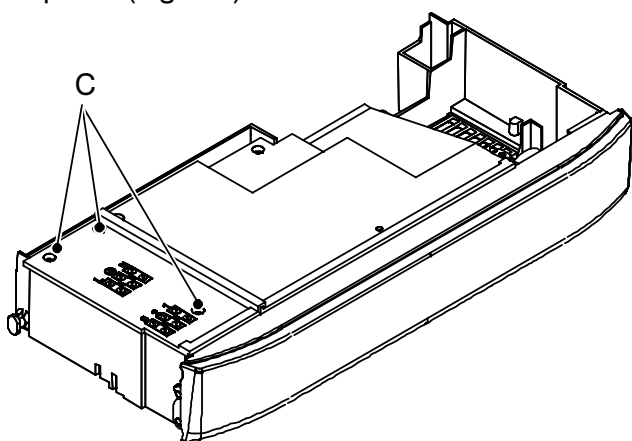

Fig. 8.1
- 8 Loosen the screws C and remove the service panel (Fig. 8.1).